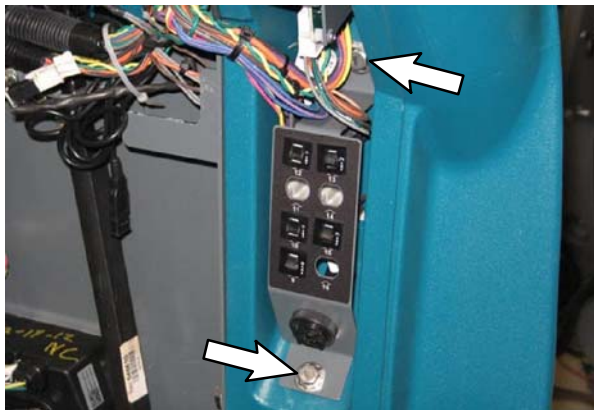

FIG. 6
16. Remove the M8 hex screw securing the bottom of the circuit breaker bracket to the machine. (Fig. 6)
17. Loosen the M8 hex screw securing the top of the circuit breaker bracket to the machine. (Fig. 6)
18. Pull circuit breaker bracket out far enough to access the main wire harness connectors located behind the bracket. (Fig. 6)
22. Reinstall the M8 hex screw removed from the bottom of the circuit breaker bracket and tighten the M8 hex screw at the top of the circuit breaker bracket. (Fig. 6)